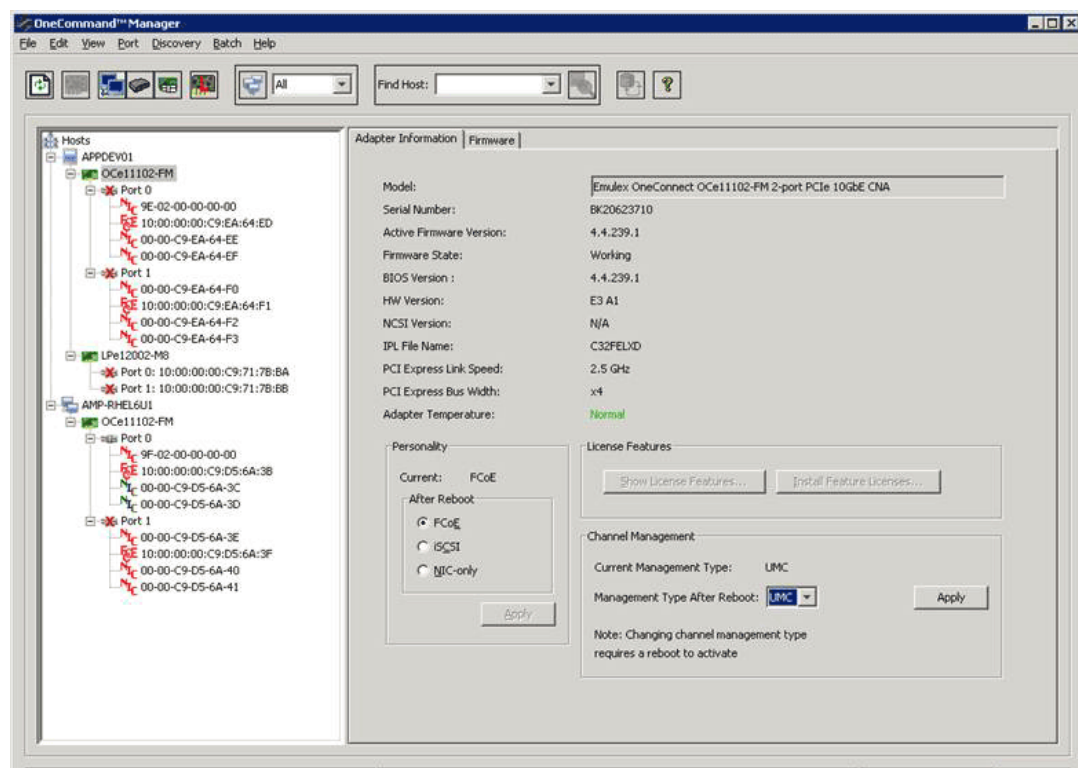

Figure 7-3 Adapter Information Tab
2. Select a OneConnect adapter in the discovery-tree The Adapter Information tab appears (Figure 7-3 on page 69).